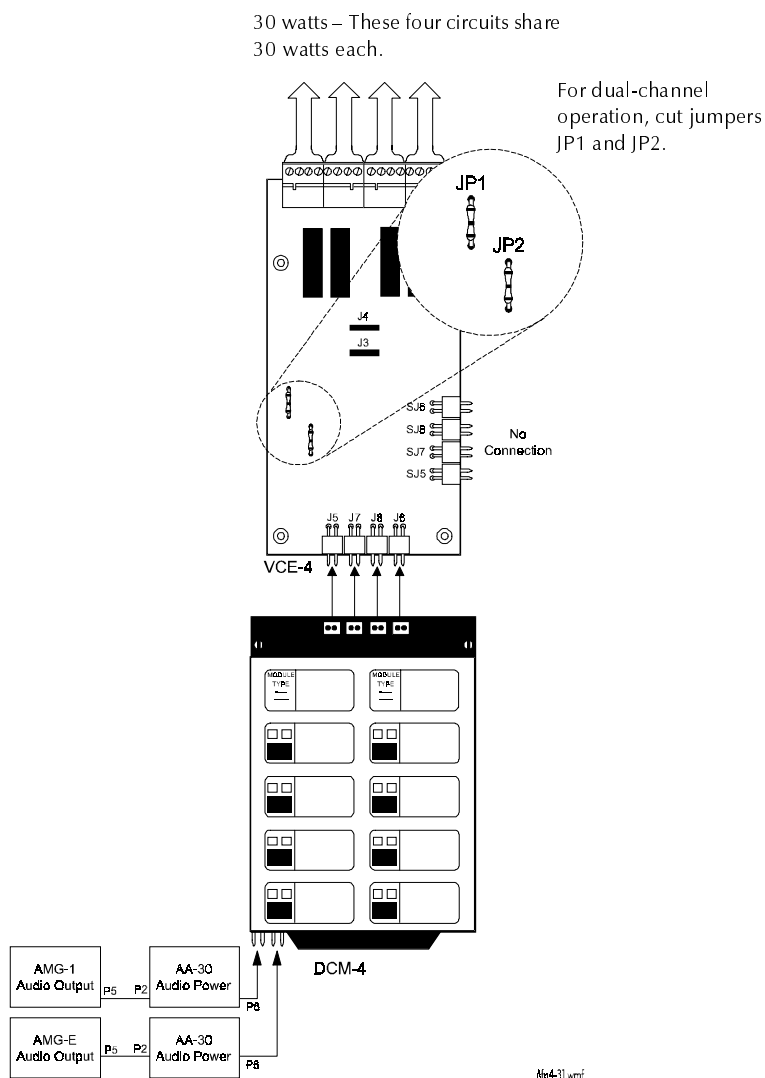

Figure 4-38 Typical 30-Watt Dual Channel Configuration
30 Watt Dual Channel	Figure 4-38 on page 4-32
3. For dual-channel operation, cut VCE-4 jumpers JP1 and JP2 (Figure 4-38).
Figure 4-38 shows typical wiring for a 30-watt, dual-channel configured circuit: